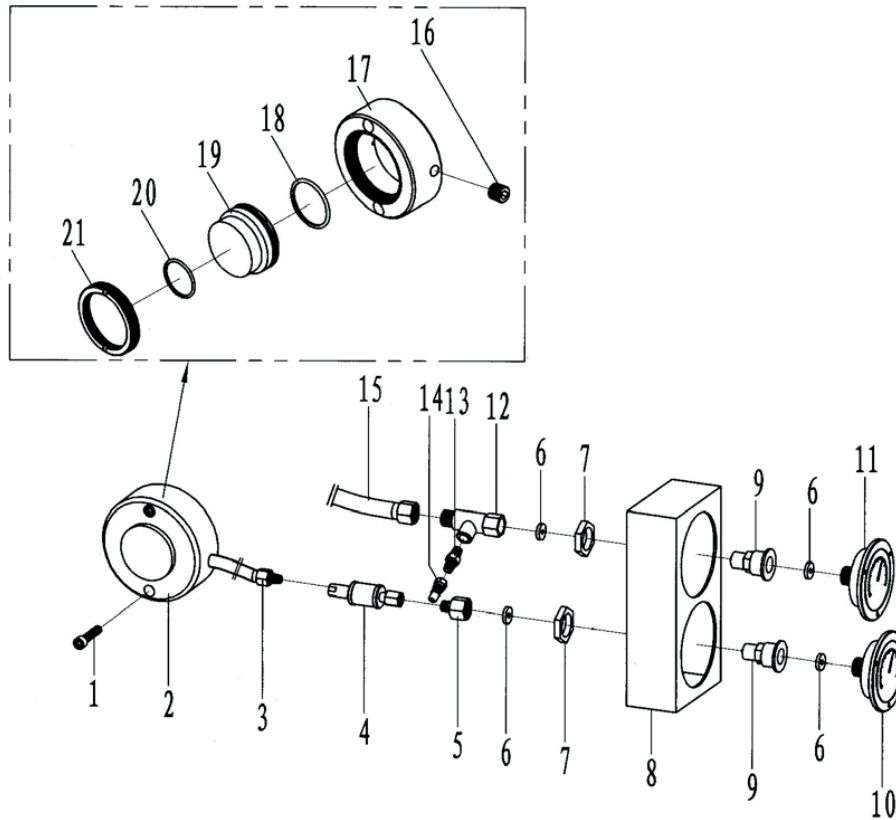

Fig.25
7.22 Torque test assembly(Fig.25,Table25)